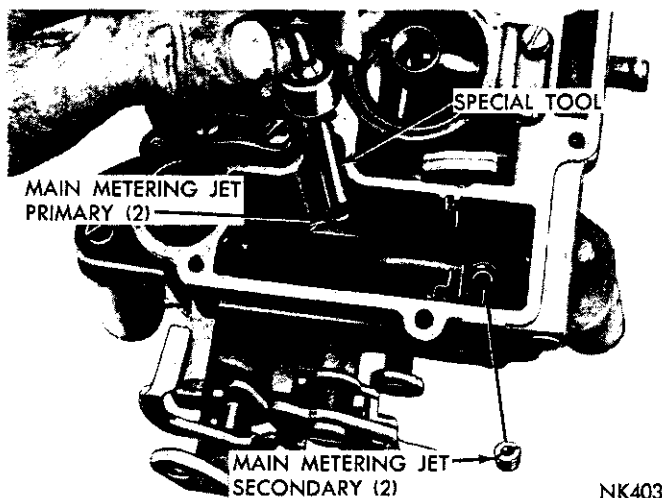

Fig. 4—Removing or Installing Main Metering Jets
(2) Using Tool T-109-58, remove main metering jets (primary side), (Fig. 4). **The primary and secondary main metering jets are not interchangeable. It is very important that these jets be installed in their respective locations in the main body at reassembly.**
(3) Again using Tool T-109-58, remove main metering jets (secondary side), (Fig. 4).
(6) Install primary and secondary main metering jets, using Tool T-109-58. (Fig. 4). Tighten jets securely.
(7) Install accelerator pump intake check ball using Tool T-109-59.